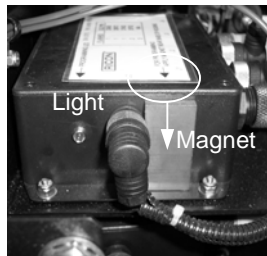

Fig. 2
- 2) Place the magnet directly down from the arrow indicated for the magnet like in Figure 2.